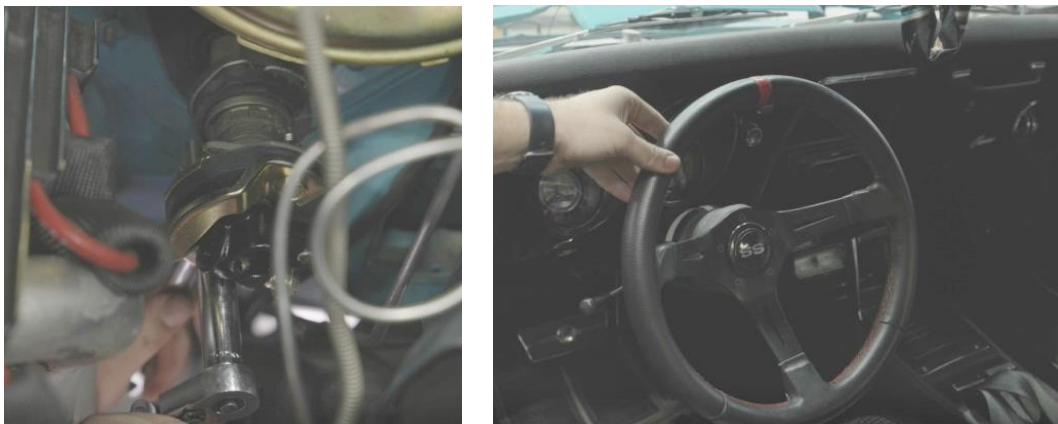

Figure 10 - Install Rag Joint
11. Install the DSE rag joint (PN: 090205DS) onto the steering shaft using the provided hardware and tighten. Make sure the steering wheel is straight (Figure 10).